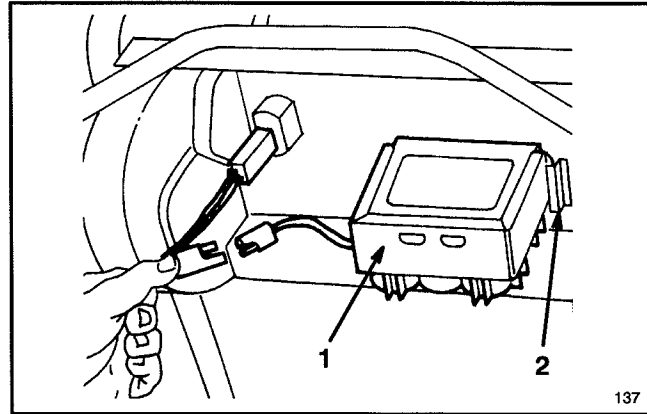

Figure 8
1. Refer to Charging Battery, page 15. Slide battery, decal side facing operator's position, between mounting tabs on back of control panel (Fig. 8).